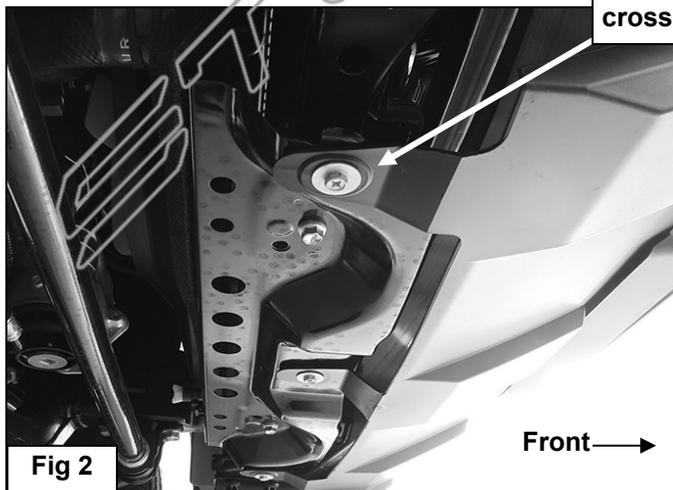

Fig 2
from below, remove the hardware attaching the bumper cover to the cross member to access the end of the frame and bracket, **(Figure 2)**.
21. Push the Grille Guard back towards the vehicle and fully tighten all hardware, **(Figure 17 & 18)**. Reattach the bottom of the bumper cover with the factory hardware, **(Figure 2)**.